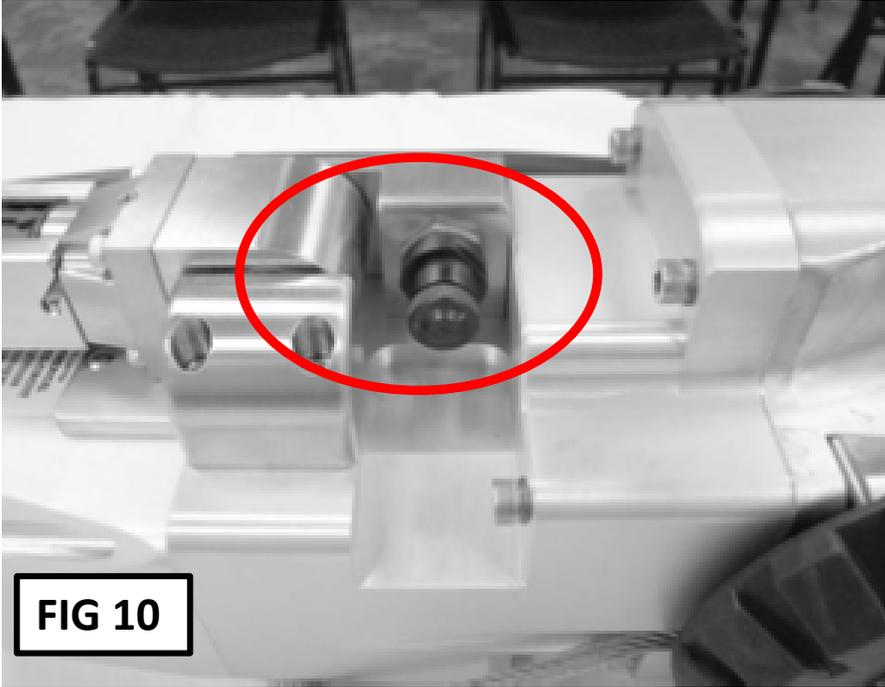

FIG 10
- INSTALL THE CONNECTOR CAP, EC431, ONTO THE 5-PIN CONNECTOR, SEE FIG 10.